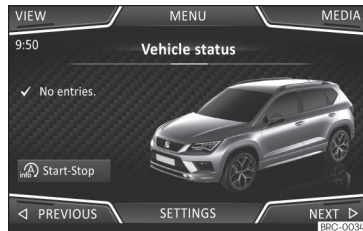

Fig. 64 Easy Connect: Vehicle Menu.
- **OR:** Press the infotainment button  to open the **Vehicle** menu >>> Fig. 64.